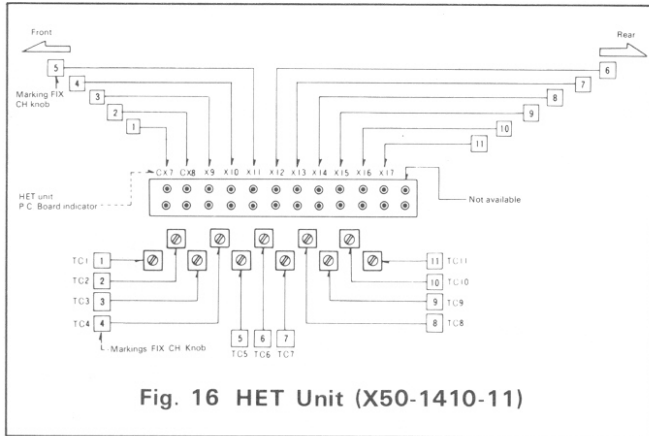

Fig. 16 HET Unit (X50-1410-11)
When fixed channel crystals are installed in the transceiver, adjust their frequencies as outlined below. (the relationship between the markings on the FIX CH knob and the crystal oscillator sockets are shown in Fig. 16):
6. While observing the digital display, adjust the trimmer corresponding to the installed crystal, until the digital display reads the specified frequency (see Fig. 16).